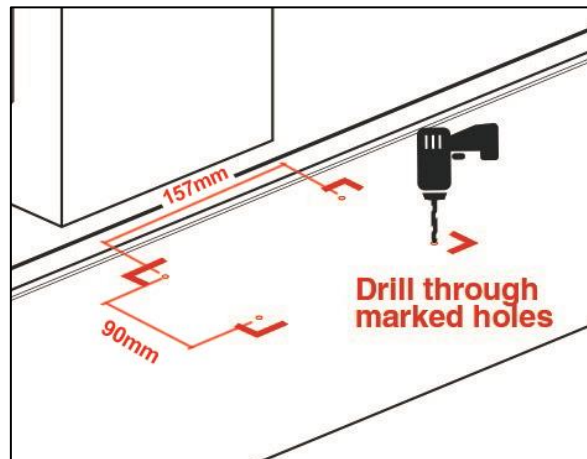

Fig 6
- Using a M12 masonry drill bit, drill holes to a minimum depth of 120mm (Fig 6).